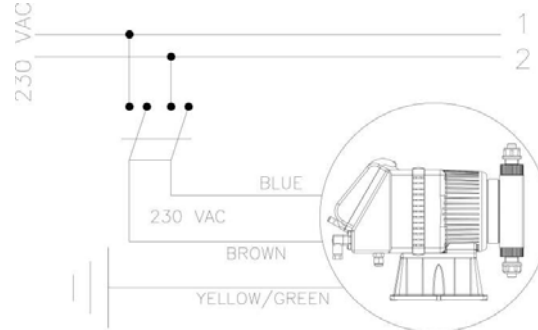

Fig. 4
1. ***Disconnect the pins from the mains or by means of a two poles switch with 3 mm minimum distance between the contacts. (Fig. 4).***
1. Disconnect the pins from the mains or by means of a two poles switch with 3 mm minimum distance between the contacts. (Fig. 4).
- b. - Carefully observe the regulations in force in the various countries as regards electrical installations (Fig.4). **When the supply cable is devoid of a plug, the equipment should be connected to the supply mains by means of a single-pole circuit breaker having a minimum distance of 3 mm between the contacts. Before accessing any of the electrical parts, make sure that all the supply circuits are open.**